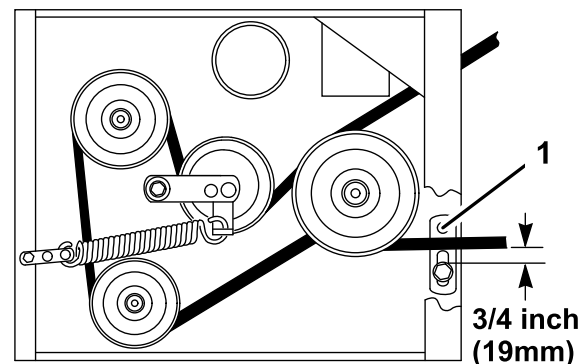

Figure 46
8. Check the belt guide under the engine frame for proper adjustment (Figure 46).
**Note:** The distance between the belt guide and the mower belt should be 3/4 inch (19 mm) when you engage the mower belt (Figure 46). Adjust the mower belt guide as necessary. The disengaged belt should not drag or fall off the pulley when the guides are properly adjusted.